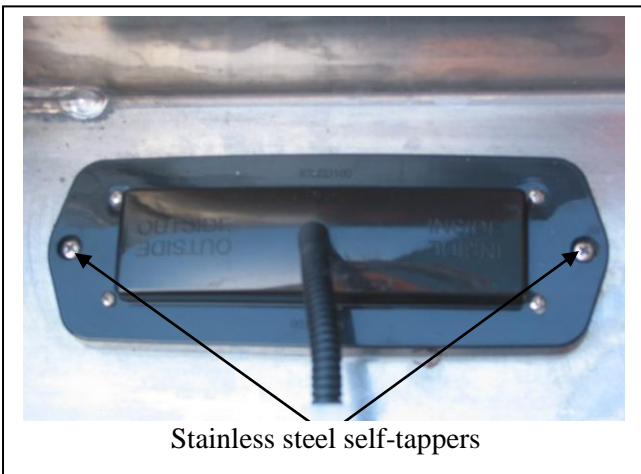

Figure 7
14. Fit ECB LED indicator / park lights into protection bar as per instructions supplied with the LED indicator kit. **NOTE:** Ensure park light is to outside. **See figure 7.**